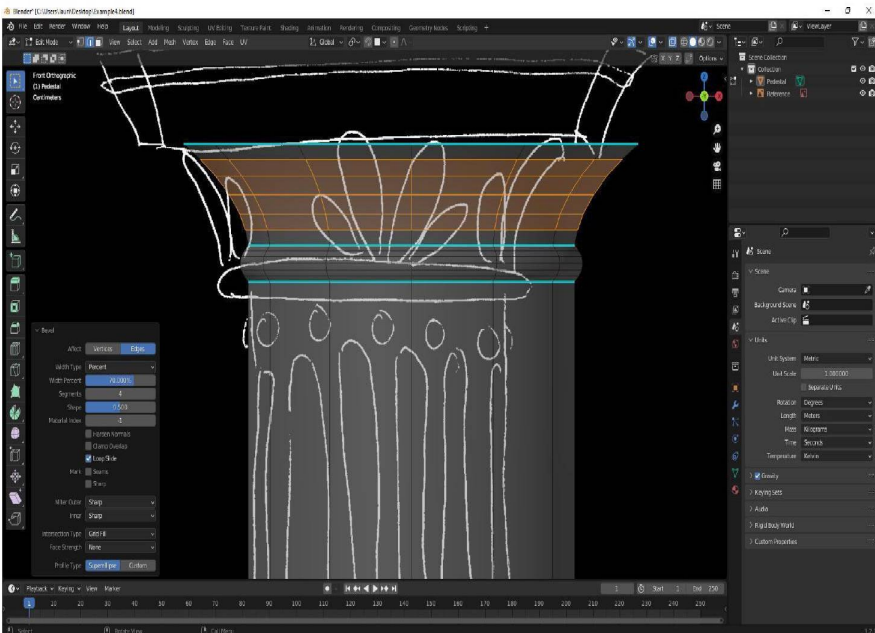

Figure 4.25: Adjusting the placement of the new bevel by changing the Width Type
- To correct this, from the Bevel contextual menu, change the **Width Type** to **Percent**, and increase the **Width Percent** to something like 70% as shown in Figure 4.25: